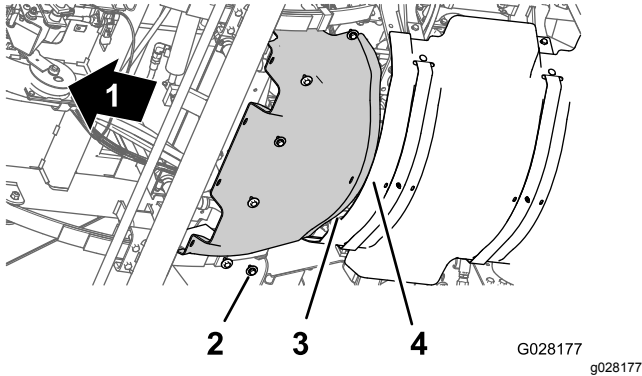

Figure 58
1. Align the rear flange of the forward heat shield over the forward flange of the rear heat shield (Figure 58).
2. Align the holes in the forward heat shield with the threaded holes in the chassis (Figure 58).
3. Assemble the forward heat shield to the machine with the 6 hex-head bolts and 6 washers (Figure 58) that you removed in step 3 of Removing the Forward Heat Shield (page 50).